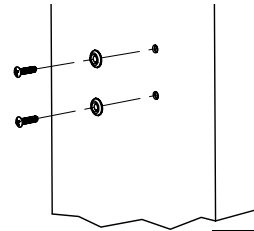

Figure 36
2. Install mounting screws and washers. (Figure 36)